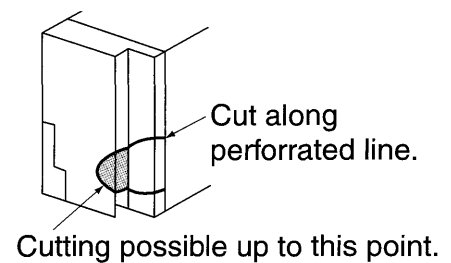

Fig. 3
4. Cut an opening in the left or right side panel for piping. (Refer to Fig. 3)